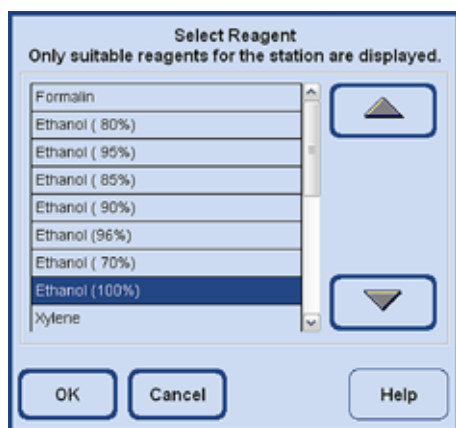

Fig. 169
- Now the reagent with which the highlighted bottle is to be filled (of course, the reagent contained in the external station) must be selected (Fig. 169).